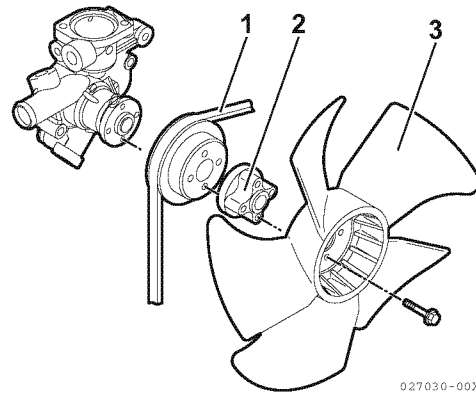

Figure 9-20
7. Install the coolant pump V-pulley (Figure 9-20, (1)), spacer (Figure 9-20, (2)), coolant fan (Figure 9-20, (3)) and fan guard (if equipped).